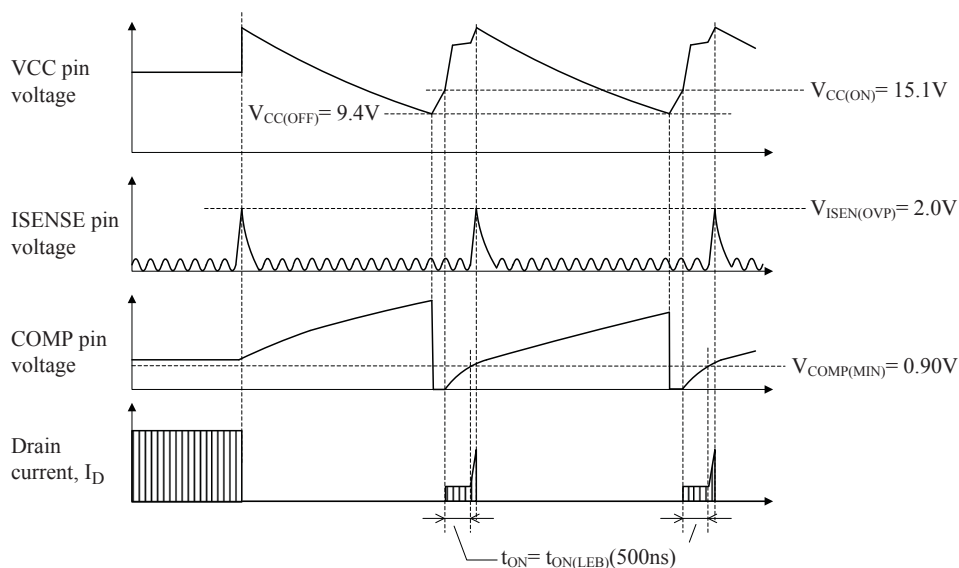

Figure 36. Waveforms when ISENSE pin OVP is being activated (LC551xD)
• ISENSE Pin Overvoltage Protection. Figure 36 shows the ISENSE pin OVP operation. When the ISENSE pin voltage with reference to the S/GND pin reaches and exceeds $V_{ISEN(OVP)} = 2.0 \text{ V}$ or more, OVP is activated.